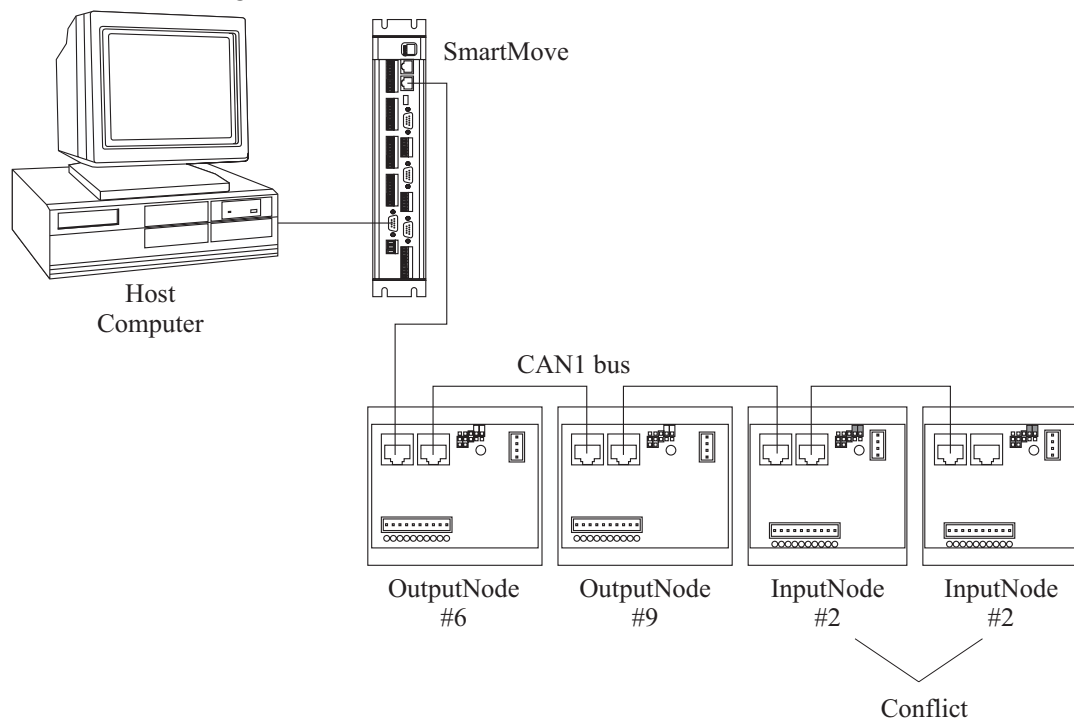

Figure 22: Network with conflicting Node IDs
- No two nodes may have the same Node ID in the same network as shown below. This will result in spurious activity on the bus resulting in the bus going down. Refer to Figure 22.